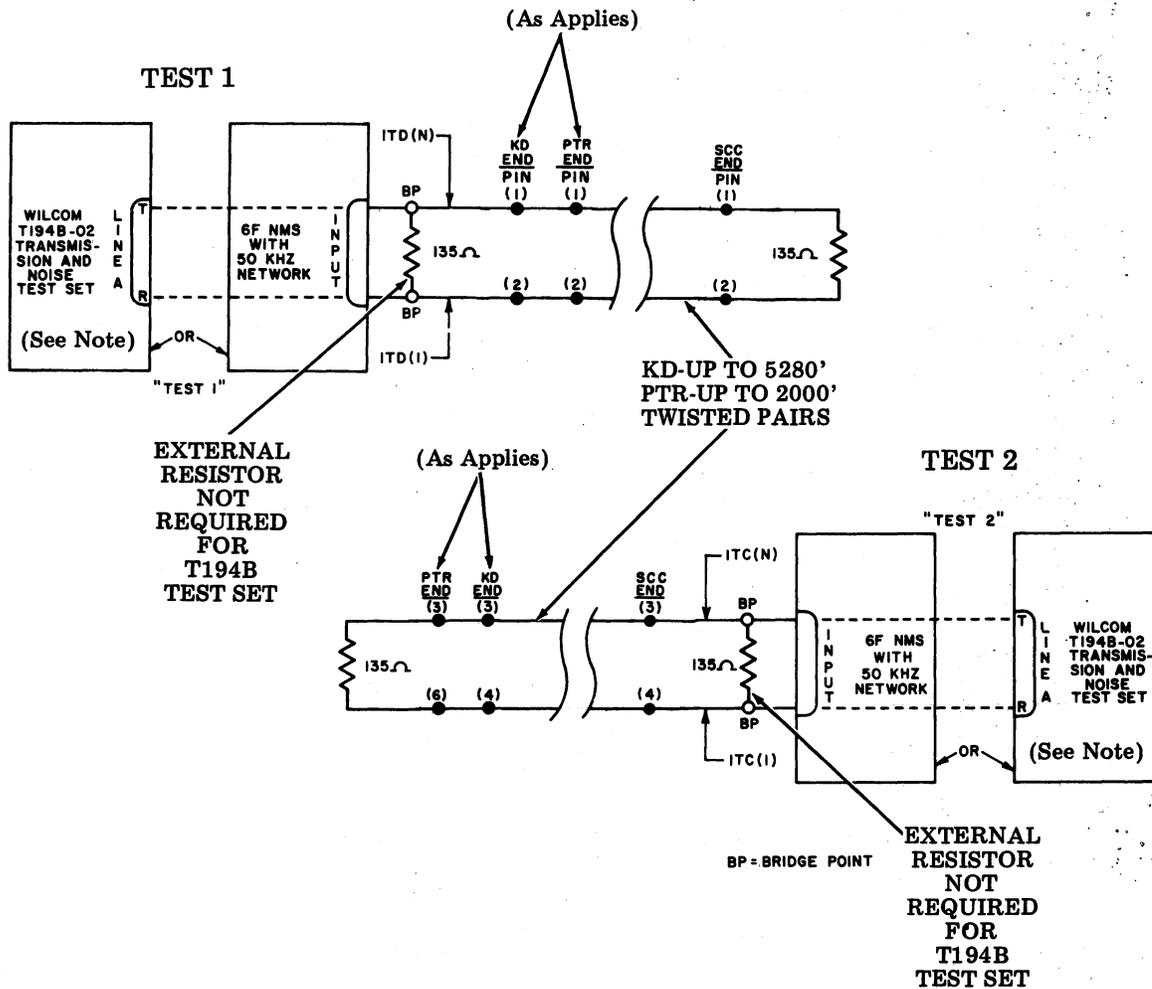

Fig. 19—Noise Measurements
3.26 The Background Noise Tests require either a WILCOM Transmission and Noise Test Set or a 6F Voiceband Noise Measuring set and one or two 135 ohm resistors. Connect the test set as shown in "Test 1" of Fig. 19. Perform the tests in Table F. The cable passes the Background Noise Level Tests if the readings are lower than 45 dBm.
- (7) Turn down send level (to avoid false reading) then adjust RECEIVE LEVEL switches for a meter reading near 0 dB on the scale. (Level may be so low that switch adjustments cannot permit an on-scale meter reading.)
- (8) Read the background noise level by adding the RECEIVE LEVEL Switch settings (using the inner (black) scale) and the meter reading.
- (9) Connect the test set as shown in "TEST 2" of Fig. 19. Again perform Steps 1a(7) and 1a(8).
- (4) Adjust the Counter 1 CAL control until the associated counter just counts (the count will be erratic when properly adjusted).
- (5) Adjust the Counter 2, 3, and 4 controls by depressing the associated push button switch and adjusting the CAL control until the counter just counts as in Step 1b(4). During calibration, only one counter will operate at a time.
- (6) Set the FUNCTION switch to CAL-MTR and adjust the meter CAL control for a meter indication at the CAL marking.
- (7) Set the function switch to 600 ohm bridging. Adjust the dBrn dial to obtain a meter reading in the upper half of the meter scale.
- (8) The background noise level is the sum of the dBrn dial setting and the meter reading.
- (9) Connect the test set as shown in "Test 2" of Fig. 19. Again perform Steps 1b(7) and 1b(8).
3.27 The Impulse Noise Tests require either a WILCOM T194B Transmission and Noise Test or a 6F Voiceband Noise Measuring Set, and one or two 135 ohm resistors. Connect the test set as shown in "Test 1" of Fig. 19. Perform the tests in Table G. The cable passes the test if "Test 1" (or "Test 2") results in a count of 1 or less.
<ul style="list-style-type: none"> (1) Set up test set as instructed in Steps 1a(1) through 1a(6) of Table F. (2) Set RECEIVE LEVEL switches using the inner (Black) scale to 65 dBrn. (3) Set DISPLAY switch to IMPULSE COUNT position. (4) Set IMPULSE COUNT TIME MINUTES to 30 position. (5) With COUNTING lamp lit, run the test for 30 minutes. (6) When COUNTING lamp turns off and COUNT COMPLETE lamp turns on, take a reading. (7) Set DISPLAY switch to SEND Hz position and back to IMPULSE COUNT position. (This resets a digital display to zero.) (8) Connect the test set as shown in "TEST 2" of Fig. 19. Run test as directed in Steps 5 and 6 of 1a.
<ul style="list-style-type: none"> (1) Set up and calibrate the 6F Voice Band Noise Measuring Set as instructed in Step 1b of Table F. (2) Set the function switch to 600 ohm bridging. Adjust the impulse noise threshold to 65 dBrn by setting the dBrn dial to 35. Reset the counter to 00, (3) After resetting the counter, run the test for 30 minutes and take a reading. (4) Connect the test set as shown in "Test 2" of Fig. 19. Run test as directed in Steps 1, 2 and 3 of 1b.